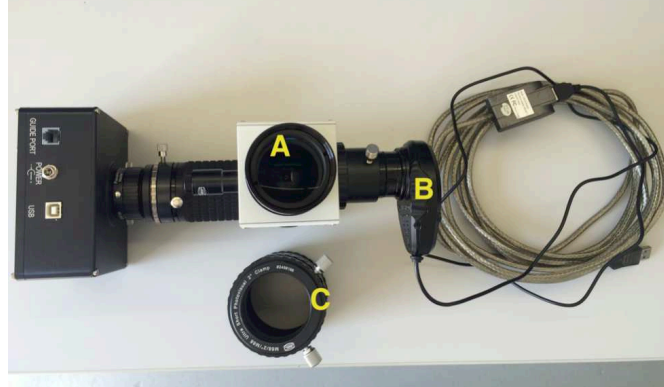
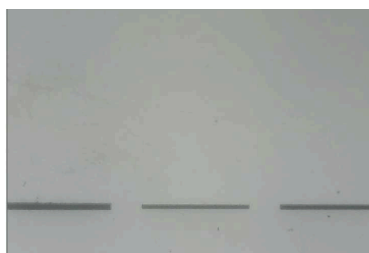

Figure 37: Spectrograph assembly:
Figure 39: Optimized slit orientation on the webcam.
- Improve and mark alignment of the Webcam with respect to the slits. In principle all slits fit onto the field-of-view of the webcam (see Fig. 39).
Note: align the slits horizontally as in Fig. 39 for N-S and E-W movement of the target.
For attachment to the telescope use the adapter piece as shown by Fig. 37. For the **Webcam** use the USB-Extender cable and connect it to the remote telescope computer. For the **ST-1603** use the same USB-cable as for the *STX-16803* which is already laid through the GM4000 mount and connected to the remote computer. Connect the **ST-1603** power adapter to the power outlet box belonging to the main power switch (see Fig. 5).
Attach the **ST-1603** and the **Webcam** with orientations as indicated by Fig. 37. This makes sure that all three slits are visible and horizontally oriented in the webcam (see Fig. 39). When attaching the **complete spectrograph assembly** to the telescope make sure that it is oriented horizontal or vertical with respect to N-S / E-W. This makes it easier to move the target onto the slit using the telescope N-S/E-W keys.
i.e. the slit-image should look similar to Fig. 39 or better
- when using telescope adapter piece as in Fig. 37 focus position $\sim 24913 \mu\text{m}$ (**TBC**)
Complete assembly with attached Barlow-lens and Webcam ready to be attached to the telescope. Note that this webcam orientation will produce the slit-image as in Fig. 39. The telescope adapter piece as shown is optimized for focusing the target onto the slit.
Note: in this image the webcam is mounted 180° opposite to the recommended position (see Fig. 37).
Note that in these images the webcam orientation is not in the recommended position (see Figs. 37, 39)
Note that in this image the webcam and spectrograph assembly orientation are bad. For the recommended orientations see Sect. 6.3 and Figs. 37, 39.